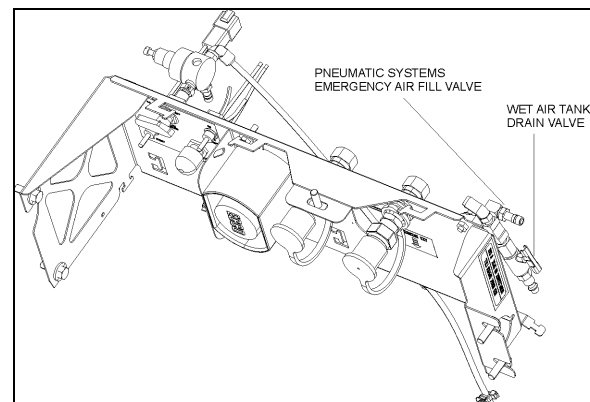

FIGURE 46: REAR VALVE LOCATION ON H3 SERIES12162
A remote valve located in engine compartment and accessible through engine R.H. side door is used to **purge daily** (Figure 46).
**The rear valve** is located in engine compartment and accessible from engine R.H. side door (Figure 46).